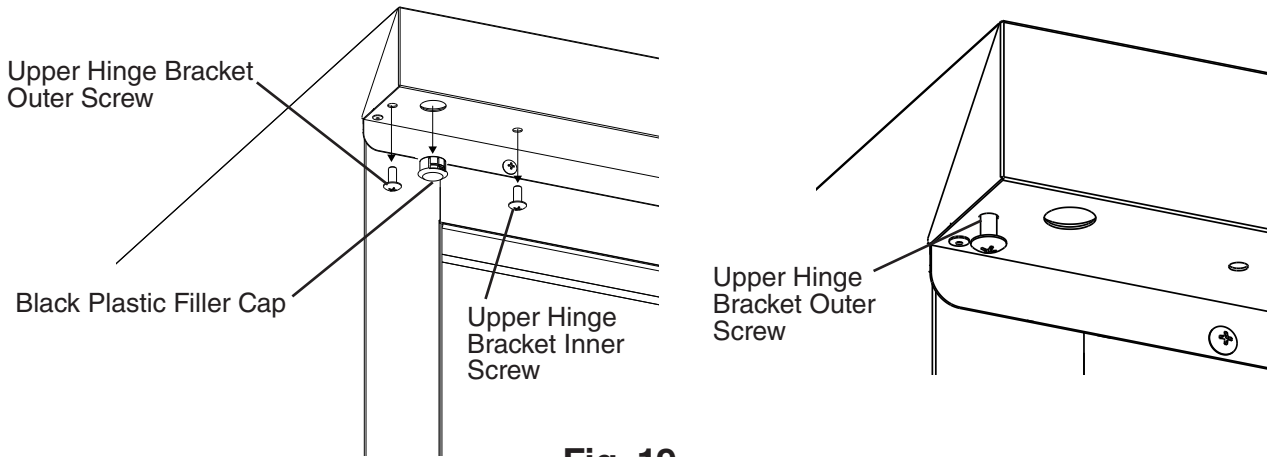

Fig. 19
- 13) Remove the upper hinge bracket screws from the new location and apply Loctite Threadlocker Blue 242 or 243 to the threads. Next, start the upper hinge bracket outer screw into the appliance. Rotate a few threads into the appliance; do not tighten the screw. See Fig. 19.